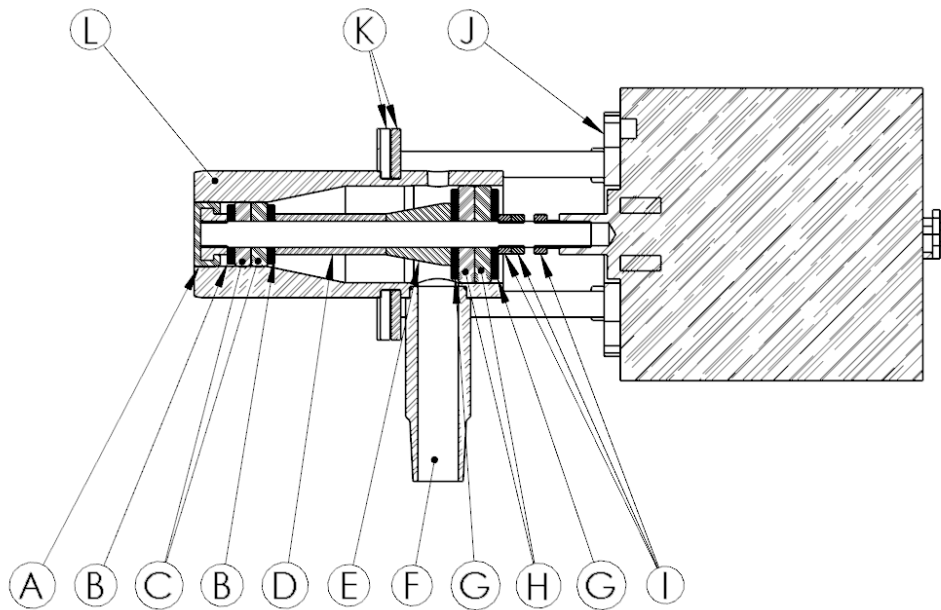

Figure 12 - Sampler Cross-Section
1. Disassemble the actuator from the sampler body by removing the M12 Hex Bolts (Item “J”, Figure 12 above).
2. Rebuild the piston shaft sub assembly as per the following order (refer Figure 12):